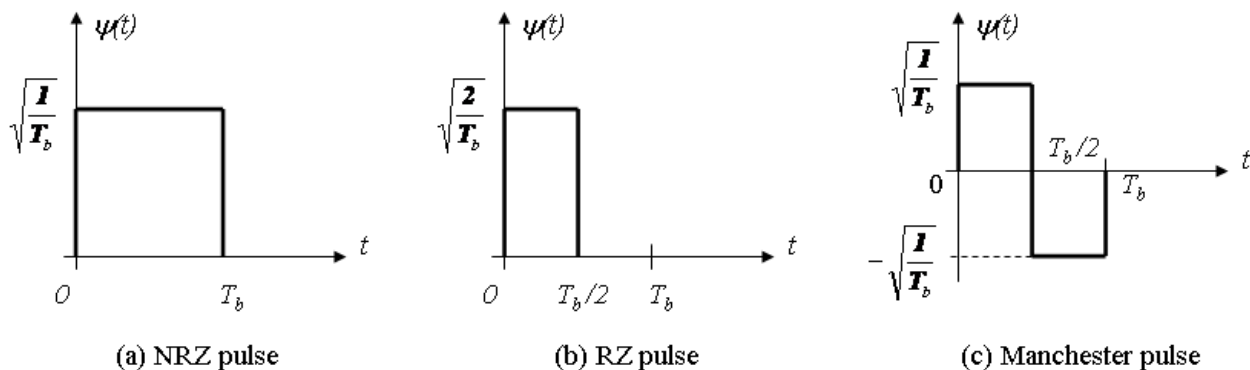

Figure 5.3: Some examples of basic baseband pulses used in digital communications
In binary modulation schemes, bit sequences are transformed into pulse sequences in a process known as modulation that consists of two basic elements: Mapping and pulse shaping. Examples of bit mapping schemes are polar (mapping 0,1 to +a, -a), unipolar (0,+a) and alternate mark inversion or AMI (0,+/-a). Examples of baseband pulse shapes are rectangular non return-to-zero (NRZ), return-to-zero (RZ) and Manchester. These pulses (with energy normalized to unity) are shown in Fig. 5.3, where T_b denotes the bit duration. The bit rate is $R_b=1/T_b$ bits per second (bps).